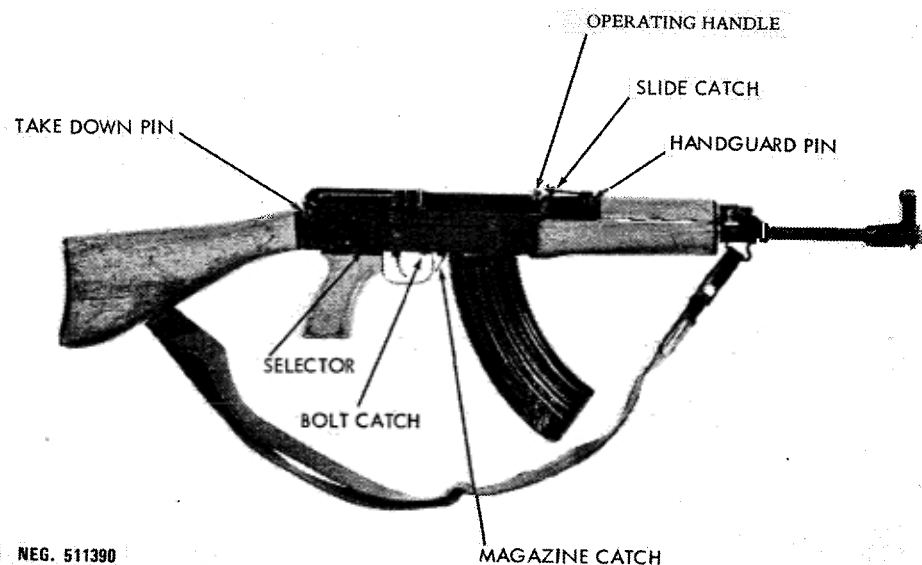
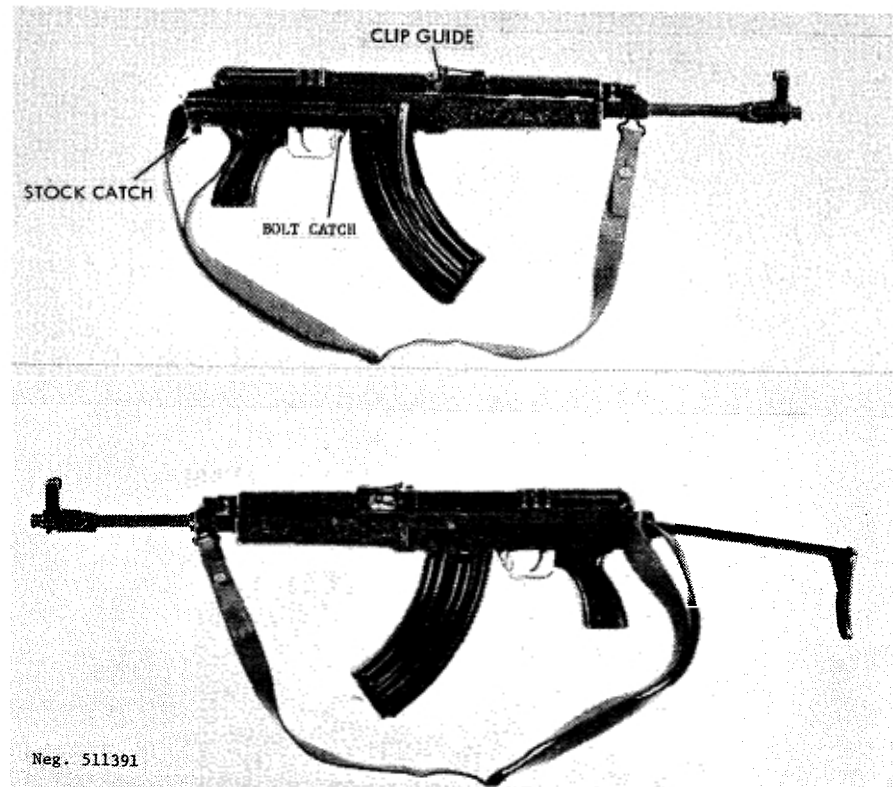

Figure 91. Czechoslovak M58P assault rifle.
Figure 92. Czechoslovak M58V assault rifle.
handguard; the grip and stock have prominent protruding studs (fig 83.2). The latest version of the AKM used by the East German Army has a "T"-shaped folding stock (fig 83.3) that swings to the right and lays alongside the receiver when folded, similar to the stock of the Czechoslovak Vz58V assault rifle (fig 92). The Romanian AKM (fig 84) has a wooden pistol grip integral with the forearm. The Romanian folding stock AKM can be identified by its rear-slanted foregrip (fig 84.1). The Hungarian AKM has a distinctive perforated sheet metal forearm with a nylon foregrip (fig 85); a short version with a muzzle brake, the AMD (fig 86), is also produced in Hungary. This model does not have a bayonet lug and has a sidewise folding stock, with a rear sight graduated only to 800 meters. The North Koreans also produce a version of the AKM, the Type 68 assault rifle (fig 87). This model has the lightest weight of any AKM and does not have a rate reducer or rails on the forestock; the folding stock version has perforations in the stock arms. Some Type 68's have a large compensator on the muzzle (fig 87.1). The People's Republic of China produces its version of the AKM, the Type 66 assault rifle. This weapon can be identified by its permanently attached folding spike bayonet. All AKM's fire the 7.62x39-mm M1943 cartridge (sec VI).
a. The Czechoslovak-designed and produced Vz58 assault rifle, a gas-operated, selective fire, box magazine-fed weapon, is the standard shoulder arm of the Czechoslovak Army. These assault rifles have also been sold to several other nations. Two versions of this rifle exist: The Vz58P (fig 91), with a
conventional fixed butt stock, and the Vz58V (fig 92), with a folding metal butt stock. Early production weapons had wooden forearms, pistol grips, and, in the case of the Vz58P, butt stocks, current production weapons have these components fabricated from a wood fiber-filled plastic material.
a. Load the magazine, using 10-round SKS stripper clips (para 113a). With an empty magazine in the weapon, fully retract the operating handle (fig 91) and release it. The bolt mechanism will be held open. Place a stripper clip into the clip guides (fig 92) formed at the top front of the bolt carrier and, with the thumb as close as possible to the base of the top cartridge, press the cartridges off the clip and into the magazine (fig 91). Remove the empty stripper clip and repeat until 30 rounds have been loaded. If SKS stripper clips are not available, load the magazine as for the AK-47 (para 89a) and, after loading, engage the T-lug on the front of the magazine with its recess in the magazine opening of the receiver. Then swing the magazine rearward until the magazine catch snaps into place. Alternatively, individual cartridges can be pressed into the magazine one at a time with the magazine in place in the receiver.
c. Unless the rifle is to be fired immediately, put it on safe by rotating the selector (fig 91) to the vertical position. This locks only the trigger; the bolt can be opened if necessary.
d. If the rifle is a Vz58V, the best firing results are obtained by using the stock to brace the rifle. Press up the stock catch (fig 92) at the rear of the receiver and swing the stock sideways until it locks in its extended position. The stock is folded by pressing in the stock latch and swinging the stock forward.
f. The front sight is adjustable for zero. Refer to paragraph 95b(2) for the procedure to be followed.
h. Remove the magazine by pressing the magazine catch (fig 91) toward the magazine; then swing the magazine forward and out of the receiver.
i. To clear the Vz58, set the safety to its vertical (safe) position, remove the magazine, and pull the operating handle fully to the rear. Press up on the bolt catch (fig 91) located at the right front of the trigger guard and release the operating handle. The bolt will remain open. Inspect the receiver and chamber to insure that no cartridges are present, then pull the operating handle to the rear and release it. Rotate the selector to "30" or "1", press the trigger, and then rotate the safety to its vertical (safe) position. Insert the magazine.
(1) Clear the weapon (para 105i), but do not insert the magazine or put the weapon on safe. If the weapon is a Vz58V, extend the stock.
(2) Pull the receiver cover pin, located at the top rear of the receiver (figs 91 and 92), to the right as far as possible. Press the receiver cover slightly forward and lift up its rear end. Ease the receiver cover rearward and remove it along with the hammer and the driving springs.
(3) Pull the operating handle fully rearward. Then, with an upward motion of the operating handle, rotate the bolt carrier and the bolt from the receiver.
(4) Pull the handguard pin (figs 91 and 92) (located at the front of the rear sight base) to the right as far as possible and lift off the handguard. Grasp the shaft of the gas piston and force